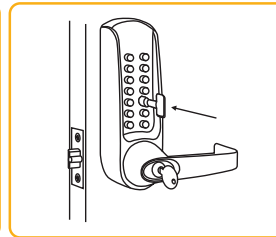

Fig 2
5. To select a button as a **code button**, push code tool over button. Press in button with tool approx 2mm and turn **clockwise 180°**, Fig 2.